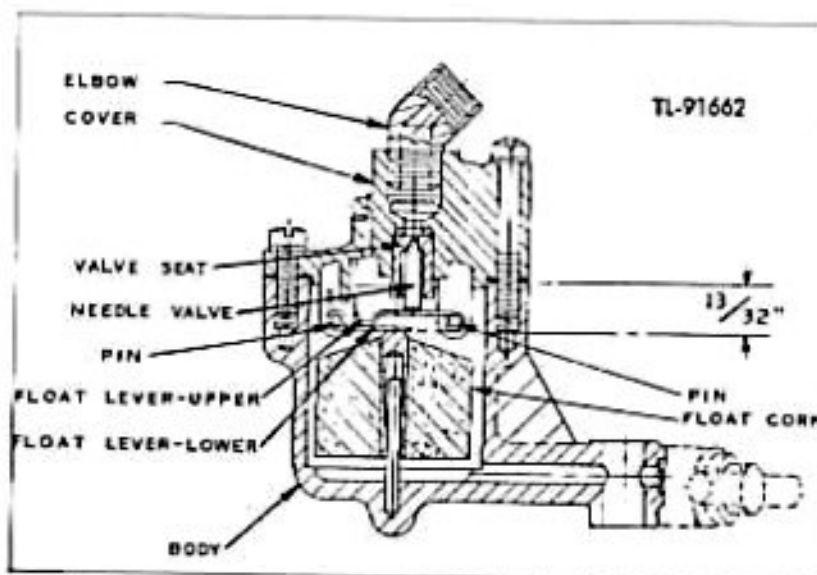

Fig. 13—Carburetor Float Assembly
(5) If the engine floods easily when starting and is not over-choked, or it is not possible to adjust the carburetor for satisfactory engine performance, the difficulty may be due to a faulty float needle valve (519), needle valve seat (523), or float cork (515). If any of these mentioned parts are not functioning properly, the level of the fuel in the float bowl will be too high, permitting the fuel to flow into the air bleed chamber. Figure 13 shows the position of parts constituting the float assembly. To determine if the needle valve and seat are seating properly, and that the float levers are not bent too high or too low, the distance from the lower lever to the face of the float bowl where the gasket (524) is located should measure $13/32$ inches, as shown on the illustration.
(6) If a new float (515) is installed, make certain it moves up and down freely on the float bowl pin.
(7) The needle valve seat (523) is replaceable by unscrewing it from float bowl cover.
j. Air cleaner. The air cleaner (553) serves to prevent dust and grit from entering the engine and causing wear to moving parts. If the equipment is operated under extremely severe and dusty